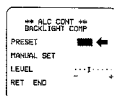

Fig. 53
- Move the cursor to the "PRESET" mode position and select the "OFF" mode by using the Left Switch (<) (9) and Right Switch (>) (8).
- The field setup menu is displayed on the monitor screen as shown in Fig. 53.
- Press the Set Switch (11) when this masking is to be canceled.
- After masking is completed, press the Set Switch (11) for more than 2 seconds and the 25 Mask Areas on the monitor screen disappears and the field setup menu shown in Fig. 53 is then displayed.
- When the video output level (picture contrast) is to be changed, move the cursor to the "LEVEL" mode position and press the Left Switch (<) (9) and Right Switch (>) (8) to adjust the iris of the ALC lens. The cursor "I" moves right (open) or left (close) corresponding to the video output level (iris opening).